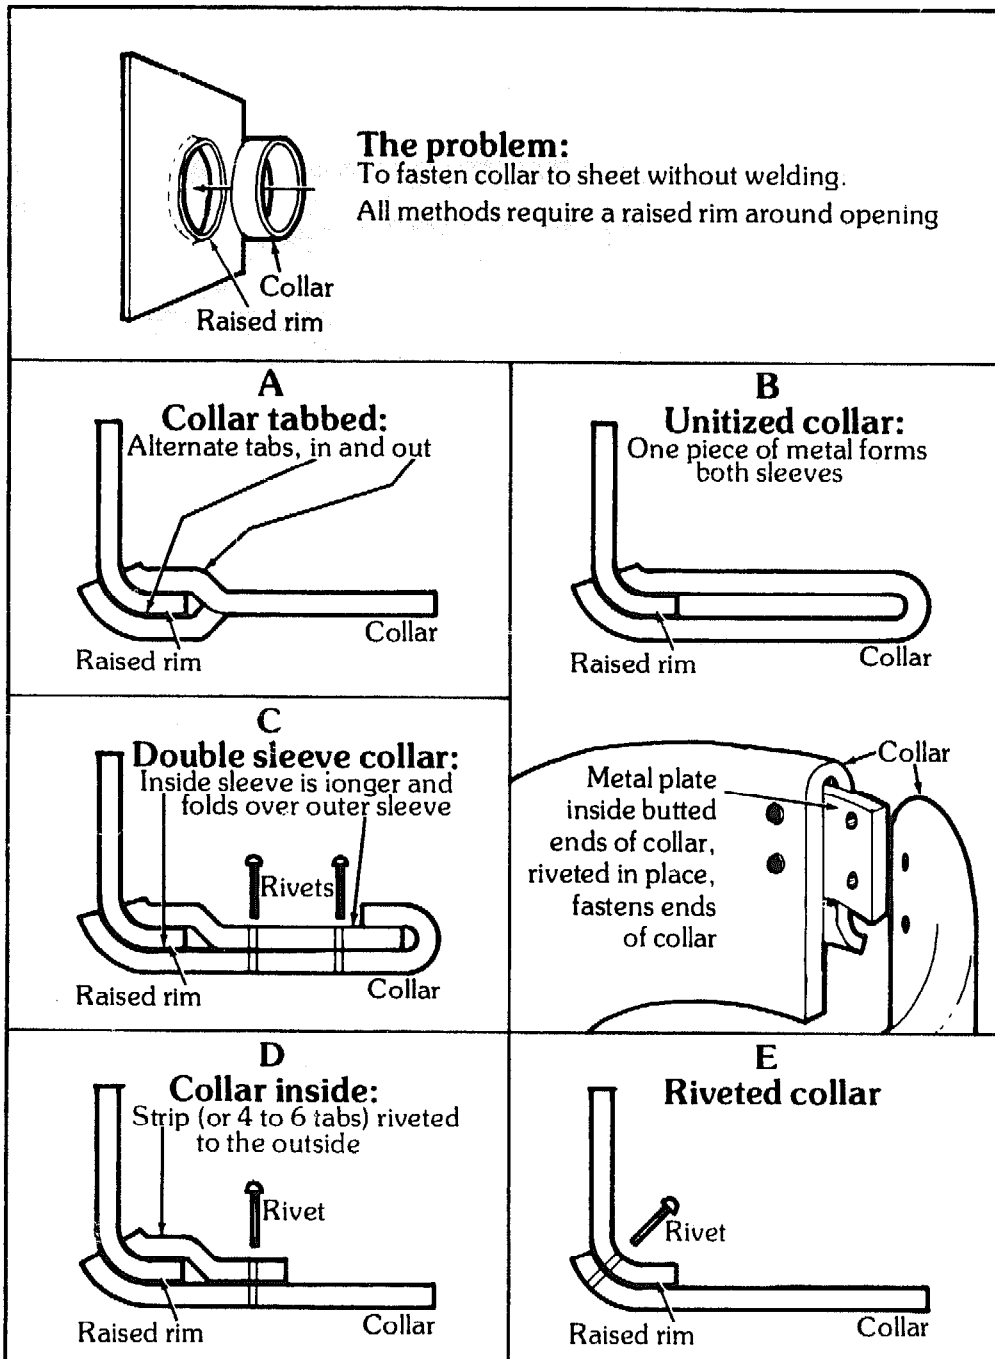
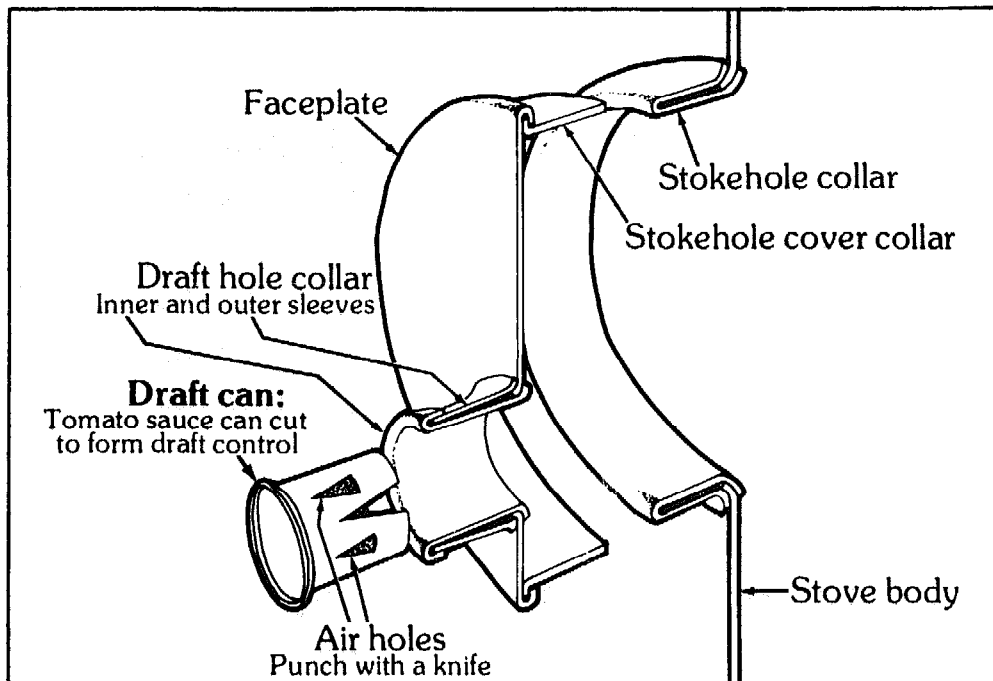

Figure 13.13 — Five ways of attaching a collar to a sheet.
Figure 13.21 — Stokehole cover and draft system.
7. Form the stovepipe collar. There are at least five ways to fasten a collar to a stove body without welding, as shown in Figure 13.13. In every case you form the collar first, since it is far easier to cut a hole to fit an existing collar than it is to make a collar to fit an existing hole. Then you cut a hole in the stove body, somewhat smaller than the collar, and turn up its edge to form a shallow, volcano-like rim. Part of the collar metal grasps the inside of this rim, and part grasps the outside—so that the finished collar can't slip either in or out—or else the collar is riveted to the rim.
Although this is the quickest and easiest way to attach a collar to the stove body, it is also the least airtight and the most likely to drip when condensate runs down the pipe. Unless you're pressed for time, I'd suggest one of the other methods shown in Figure 13.13.
method shown in Figure 13.13, Drawing B. This type of collar is the most airtight, the tidiest, and to my mind, the most elegant of the bunch. Cut a strip of metal $23\frac{1}{2}$ by 5 inches. Draw a line along the length of the strip on the painted side, $2\text{-}\frac{3}{8}$ inches from one edge. Score lightly and fold over to form a doubled strip. Carefully form this into a circle, leaving the shorter side of the fold out.
13. Make the stokehole cover collar. (See Figure 13.21). Measure around the outside of the stokehole collar to get the length of the strip you need, allowing $\frac{1}{2}$ inch for overlap. Cut the strip $2\frac{1}{4}$ inches wide and mold it to the stokehole collar so that it slides on and off with a smooth, gentle friction fit. A collar that is too tight makes it hard to get the cover on and off, and one that is too loose admits too much air for best control of the fire. Rivet it twice through the overlap. Make a mark on both collars so that you can always line them up in the same way. With the stokehole cover collar in place on the stokehole collar, bend a $\frac{1}{4}$ -inch flange
15. Form the draft hole collar. The draft system is also shown in Figure 13.21. A tin can, with air holes cut as shown, slides inside a small collar in the stokehole cover faceplate to admit varying amounts of air to the firebox. This collar is constructed according to the method shown in Figure 13.13, Drawing C. First, obtain a soup or tomato sauce can to use as a form in rolling the strips. Carefully measure the circumference of your can and cut a sheet of metal just a shade longer and 3 inches wide. You want the sheet to go all the way around the can and just butt up edge to edge, with a gently snug fit. Mold this sheet to fit around the can, thus forming the inner sleeve of the collar. Now cut another sheet of metal a shade longer than the inner sleeve and $\frac{1}{2}$ inch narrower. Form it around the inner sleeve, with the seams offset 180 degrees. Take care to get both sleeves as round as possible, and check the fit against your can. Clamp the sleeves together so that $\frac{1}{4}$ inch of the inner sleeve protrudes at each end of the outer sleeve and rivet twice on each side of each seam—eight rivets in all.
16. Cut the draft can. After removing one end and the rim, cut the draft can to the pattern shown in Figure 13.21. Pushing the can all the way into the draft hole collar closes the draft completely; pulling it out various distances gives varying amounts of air to the fire; removing it from the collar completely allows a strong blast of air to rush through the tube onto the coals. A simple handle can be riveted onto the bottom of the can to aid in manipulating it.